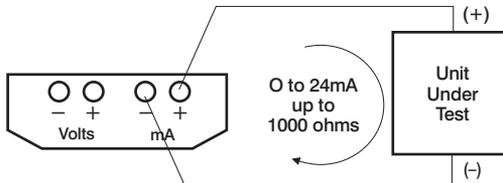

Figure 2
2. In the current mode, the maximum load driving capacity of the PCL422A is 1000 ohms. If connections to the mA jacks are open or the load is greater than the compliance voltage while trying to source a current, the word "OPEN LOOP" will appear intermittently on the LCD readout. (See Figure 2)